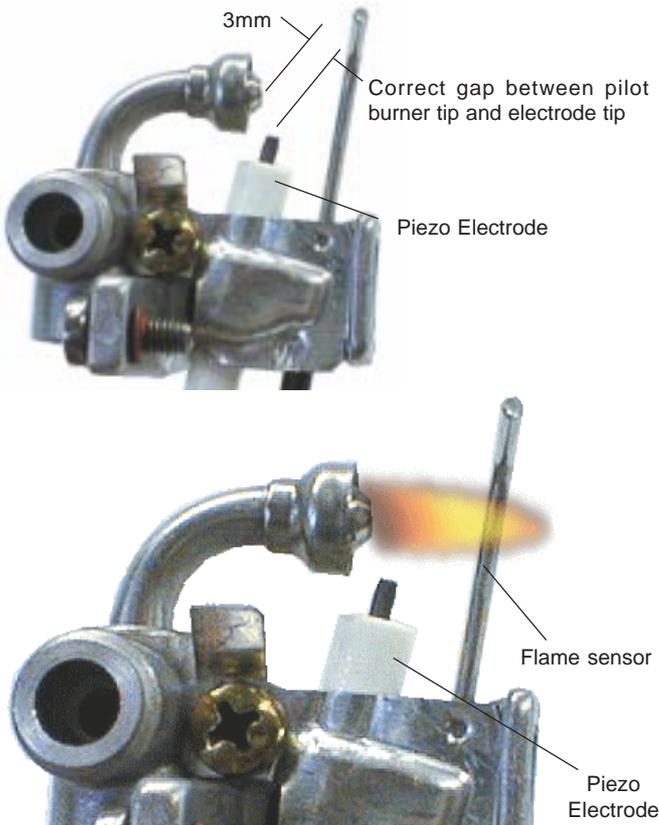

Fig. 10 - Characteristic Pilot Flame
**Pilot Flame:** The pilot flame should burn with a clean, sharp, blue flame and should resemble the diagram in Fig. 10. If the flame is soft and yellow, the pilot burner orifice may need to be cleaned or replaced. The pilot flame should be approximately 2 inches long, extending past the flame sensor. If the flame is too small, it will not reach the flame sensor and the burners will not come on.